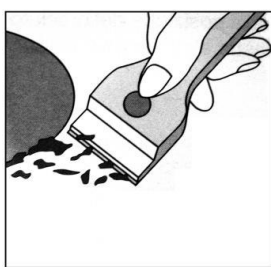
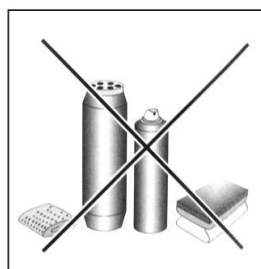

Fig.1
Fig.2
- **CERA** *Quartz*® (not supplied) (Fig. 1). Clean the cooking surface when it is still warm with a suitable cleaning product and paper towels. Then rub with a damp cloth and dry. Aluminum foil, plastic items, objects made of synthetic material, sugar or foods with a high sugar content that have melted onto the surface must be removed **immediately** with a scraper while the cooking surface is still hot. Special cleaning products for ceramic glass surfaces form a transparent protective layer which fights dirty buildup. This also protects the surface from damage caused by food with a high sugar content. Do not use abrasive sponges or cleaning products under any circumstances. This holds true for chemically aggressive cleaners, like oven sprays and stain removers (Fig.2)